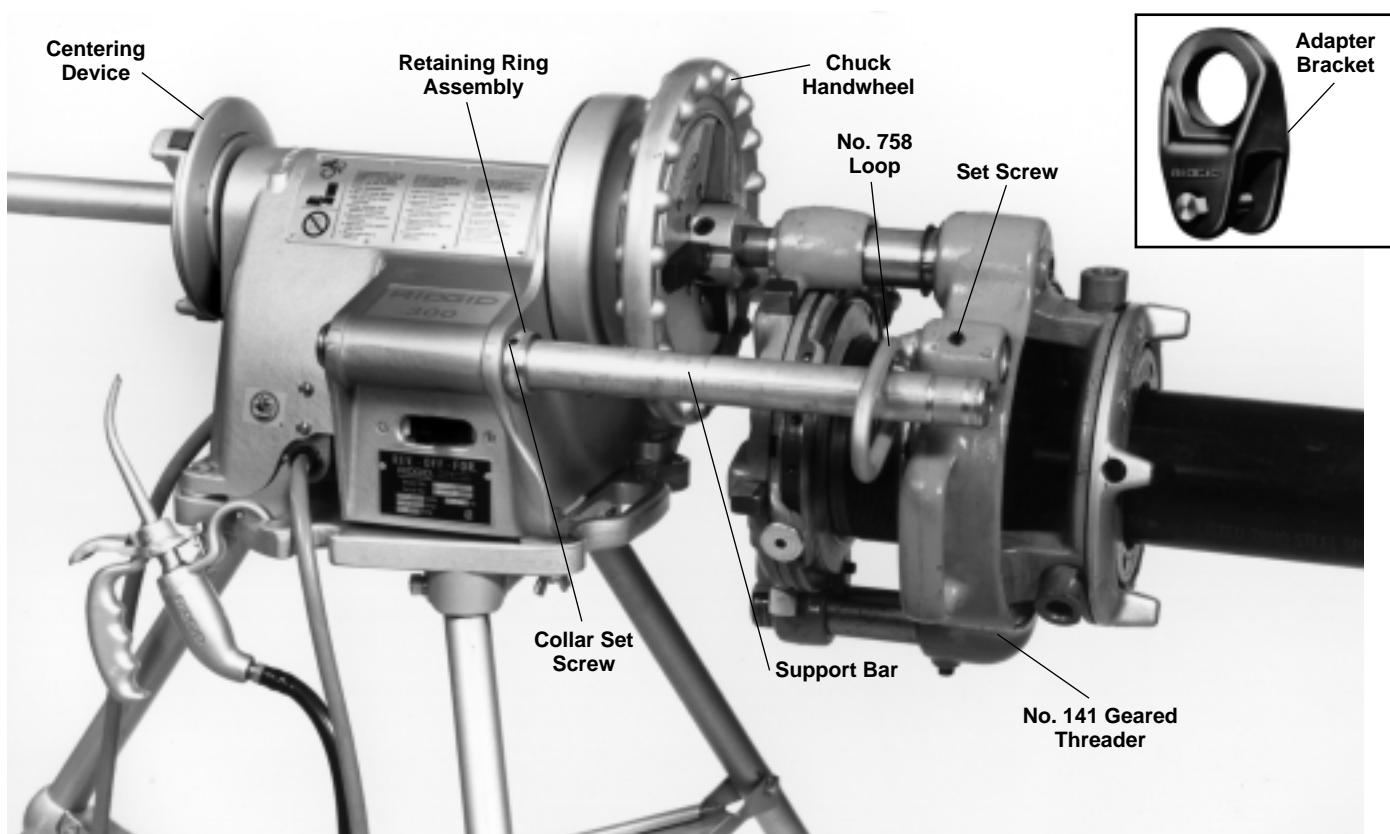

Figure 15 – No. 141 Geared Threader Close-Coupled to Power Drive
3. Two men pick up threader and insert drive bar into chuck of power drive (Figures 15 or 16). Tighten power drive chuck jaws into three "V" shaped grooves in head of drive bar.
5. **141 Threaders** (Figure 15) – Pull out support bar on switch side and secure collar against power drive body with set screws.
6. **141 Threaders** (Figure 15) – Slip No. 758 Loop over support bar and secure to gear case loop with set screw.
**NOTE!** Use No. E-3675 Adapter Bracket (Figure 15), in place of No. 758 Loop, on all 4P threaders without loop hold on gear case.